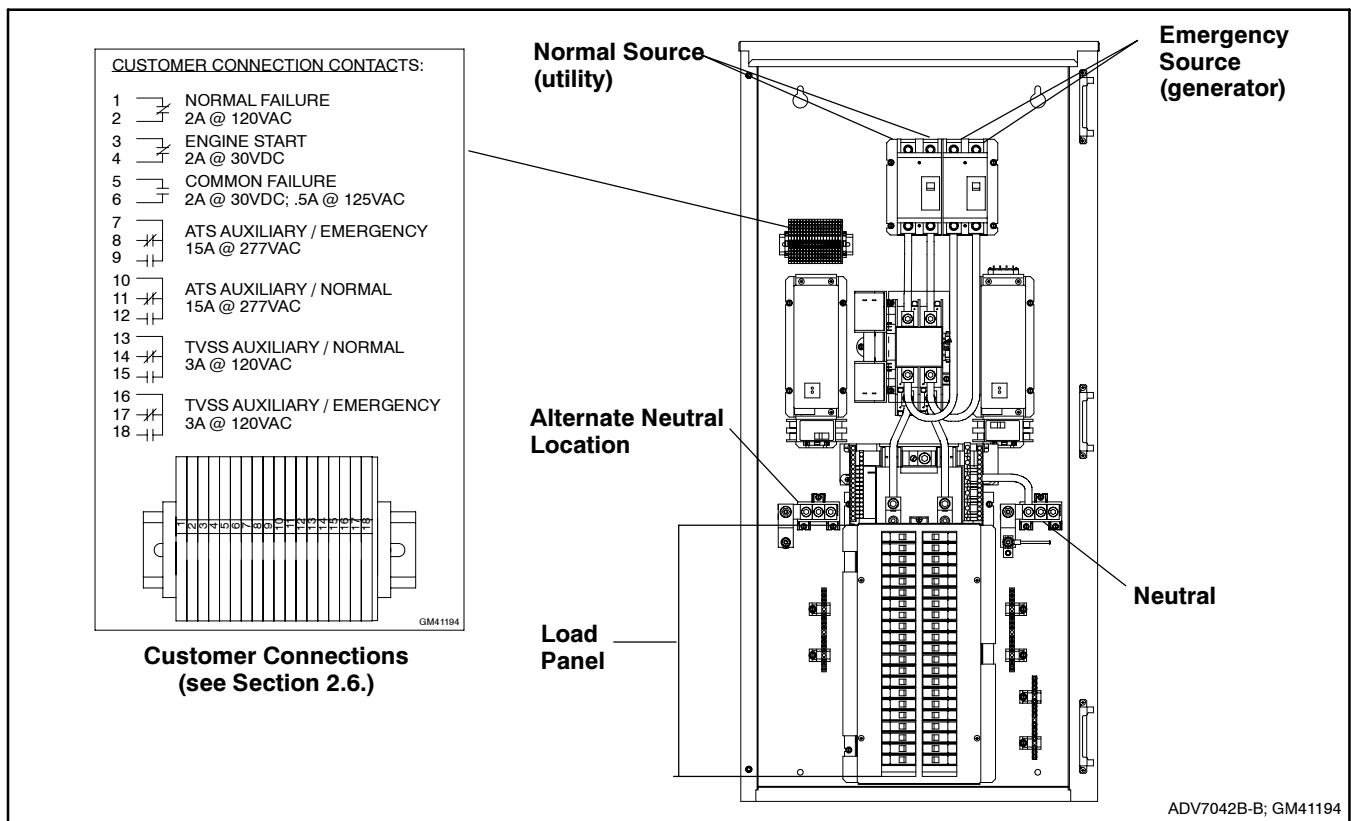

Figure 2-6 Connections
The customer connection terminal block shown in Figure 2-6 allows connection of the generator set engine start leads and customer-supplied equipment for remote indication of normal source failure, common faults, transfer switch position, and TVSS module status.
Connect the engine start leads from the generator set to terminals 3 and 4 on the customer connection terminal block. See Figure 2-6 for the location of the engine start contacts.
Standard auxiliary contacts provide one set of contacts that close when the transfer switch is in the Normal position and another set that close when the transfer switch is in the Emergency position. See Figure 2-6 for contact ratings.
The TVSS provides for remote monitoring via a normally open (NO) or normally closed (NC) contact. The contact changes state when the TVSS module needs to be replaced. The circuit is rated for 3 amps at 120 VAC. See Figure 2-6 and the wiring diagram in Section 6.